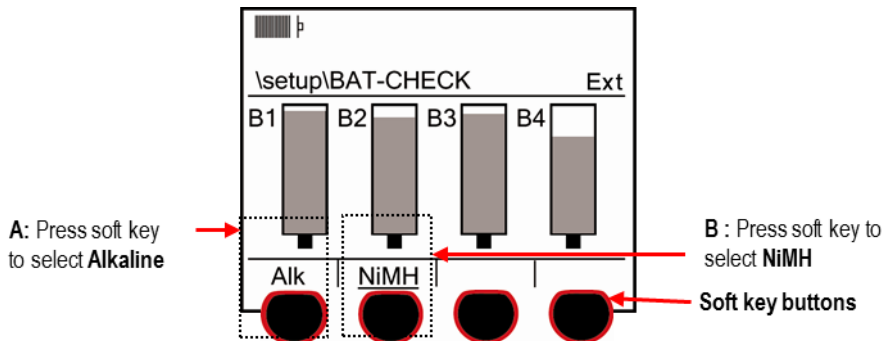

Figure 2-7: Selecting battery type in battery check screen
4. Press the soft key that corresponds with the installed battery type (See “A” or “B” in Figure 2-7 for selection). The label above the soft key is underlined to indicate the current selection.